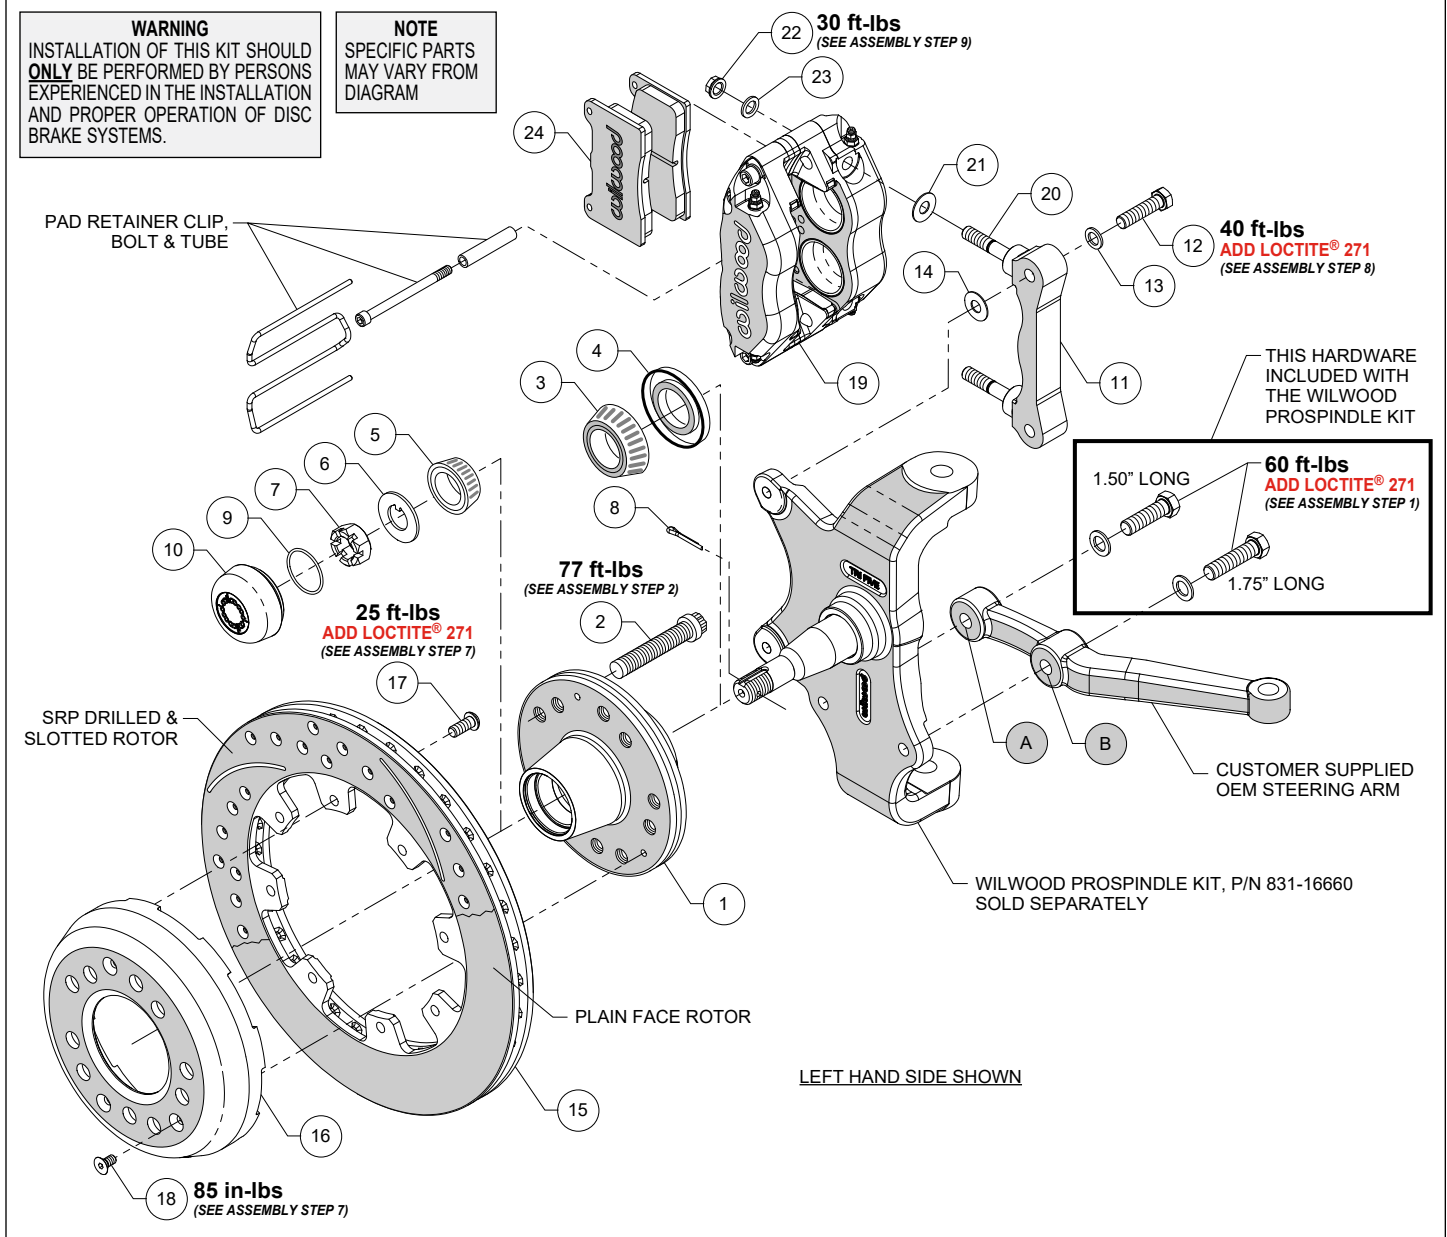

Figure 1. Typical Installation Configuration
Numbers in parenthesis refer to the parts list and Figure 1 on the preceding pages.
•**NOTE:** Wilwood's ProSpindle kit (p/n 831-16660) includes bolts and washers to mount the steering arm (customer supplied) to the spindle. The various bolts are identified by length in the following instructions and in Figure 1.
**STEP 1** Orient the steering arm, and identify the hole marked "A" as shown in Figure 1. Attach arm to spindle using 1.50" long bolt and washer (from ProSpindle kit), Figure 1. Finish attaching the steering arm through the hole marked "B", using 1.75" long bolt and washer (from ProSpindle kit), Figure 1. Temporarily tighten the mounting bolts. **NOTE:** The steering arm must fit squarely against the mounting points on the spindle. Inspect for interference from casting irregularities, machining ridges, burrs, etc. Remove bolts one at a time, apply red Loctite® 271 to threads, and torque to value shown in Figure 1.
**STEP 2** Install wheel studs (2) from the backside of the hub (1), Photo 1. Torque to value shown in Figure 1. **NOTE:** There are two five lug patterns in the hub (5 x 4.50" and 5 x 4.75"). Ensure the correct hub stud pattern is being used to fit the wheel application.
**STEP 3** Pack the large inner bearing cone (3) with high-temp disc brake bearing grease (available from your local auto parts store) and install into the backside of the hub (1), Figure 1 and Photo 2. Install the grease seal (4) by pressing into the backside of the hub (1), flush with the end of the hub.
**STEP 4** Pack the small outer bearing cone (5) with high temperature disc brake bearing grease and install into the front side of the hub (1). Slide the hub assembly onto the spindle, Photo 3. Secure using spindle washer (6) and spindle nut (7). **Bearing adjustment:** Tighten the nut while turning the hub. When there is a slight bind on the bearings, they are seated correctly. Back the nut off about 1/6 to 1/4 of a turn, or sufficiently to allow .001" to .007" end play. **WARNING:** Failure to back off adjusting nut could cause bearing to run hot and be damaged, which could cause the wheel to lock or come off. Install cotter pin (8), Photo 4.
**STEP 5** Screw dust cap (10) into hub (1), Photo 5. Friction created by the o-ring (9) on the dust cap keeps it from unscrewing. **NOTE:** The O.D. of the existing OEM spindle washer may be larger than the I.D. of the dust cap not allowing it to seat against the hub face. Therefore, use the spindle washer (6) supplied with the kit instead of the OEM washer.
**STEP 6** The caliper mount bracket (11) should initially be installed with clean, dry threads on the mounting bolts. Orient the bracket as shown in Figure 1 and Photo 6, and install using bolts (12) and washers (13). Initially place one .035" thick shim (14) on each bolt between the bracket and spindle, Figure 1. Temporarily tighten the mounting bolts. **NOTE:** *The bracket must fit squarely against the mount bosses on the spindle.* Inspect for interference from casting irregularities, machining ridges, burrs, etc. Later, after the caliper alignment has been checked, the mount bolts will be secured using red *Loctite*® 271.
**STEP 7** Orient the rotor (15) and the hat (16) as shown in Figure 1 and Photo 7. Attach rotor to hat using bolts (17). Apply red *Loctite*® 271 to the bolt threads and torque to value shown in Figure 1 using a criss-cross pattern. Slide the hat/rotor assembly (16 and 15) onto the hub assembly. **NOTE:** *The hat must fit flush against the hub flange or excessive rotor run out may result.* Install set screws (18) to keep the hat/rotor assembly in place while continuing with the installation, Photo 8. Torque to value shown in Figure 1.
**STEP 8** Mount the caliper (19) onto the caliper bracket studs (20). Initially place one .035" thick shim (21) on each stud as shown in Figure 1 and Photo 9. Mount the caliper (19) onto the bracket (11) using lock nuts (22) and washers (23), Figure 1. Temporarily tighten the lock nuts and view the rotor through the top opening of the caliper. The rotor should be centered in the caliper, Photo 10. If not, adjust by adding or subtracting shims (14) between the bracket and the spindle. Always use the same amount of shims on each of the two mounting bolts. Once the caliper alignment is correct, remove the bracket mounting bolts (12) one at a time, apply red *Loctite*® 271 to the threads, and torque to value shown in Figure 1.
**STEP 9** Remove the caliper pad retainer clip, bolt and tube from the caliper. Insert the brake pads (24) into the caliper, with the friction material facing the rotor, as shown in Photo 11. Check that the top of the brake pad is flush with the outside diameter of the rotor. If not, adjust by adding or subtracting shims (21) between the caliper and the bracket. After the caliper pad height is set, reinstall the pad retainer clip, bolt and tube, Photo 12. The bolt should be snug without play in the tube. Be cautious not to over tighten. Torque the caliper lock nuts (22) to value shown in Figure 1.